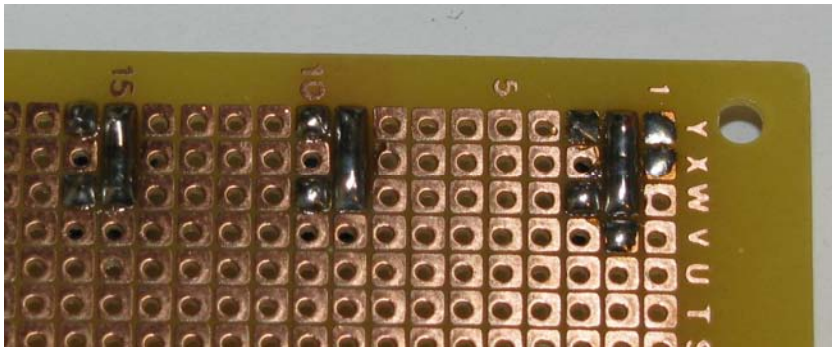

Figure 4-10. Make a “solder-bridge” between the anode of the emitter and the collector of the photo-transistor
3. After securing each sensor, solder the two pins together on the right side of each sensor pair, the anode of the emitter and collector of the photo-transistor (see Figure 4-10). You can bend the right-side leads until they are touching each other flat against the board—then solder them together, clipping off the extra with a set of plier snips.